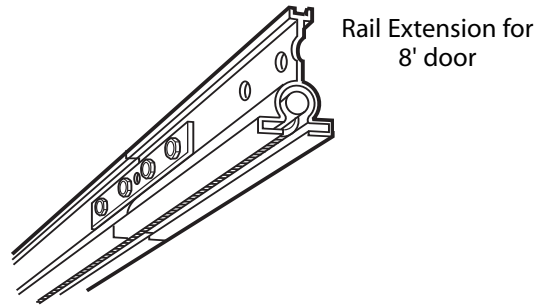

Figure 3 Rail Extension Kit
- B** If door height is 8'-0", you need a Rail Extension Kit. (**Figure 3**) (See Accessories Order Form, page 19).